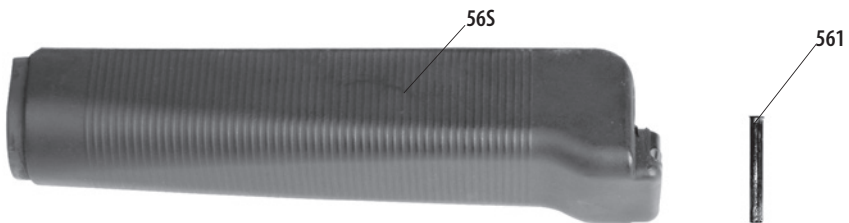
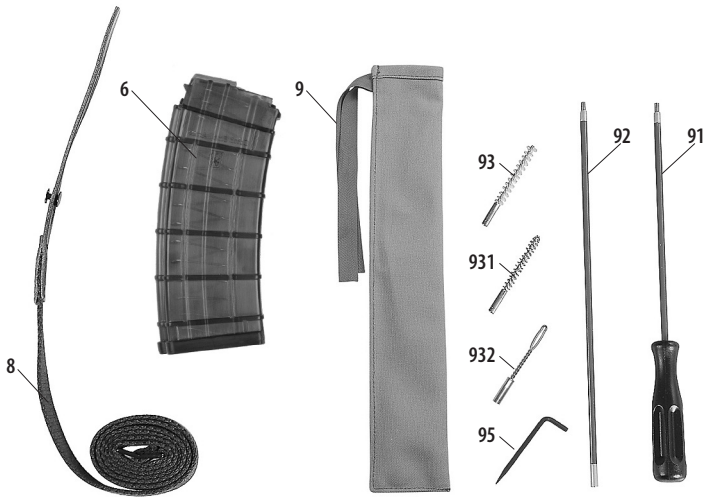

Fig. 21 *Lower handguard*
Fig. 22 *Accessories*
**Lower handguard 56P** (Fig. 21) is made of polymer and covers the barrel from below. The front end of the lower handguard is shifted in lower handguard front hoop 16 which is slipped over the barrel and snapped in by the gas adapter lug. The rear end of the lower barrel guard is fixed to the receiver by pin 561 (Fig. 22).